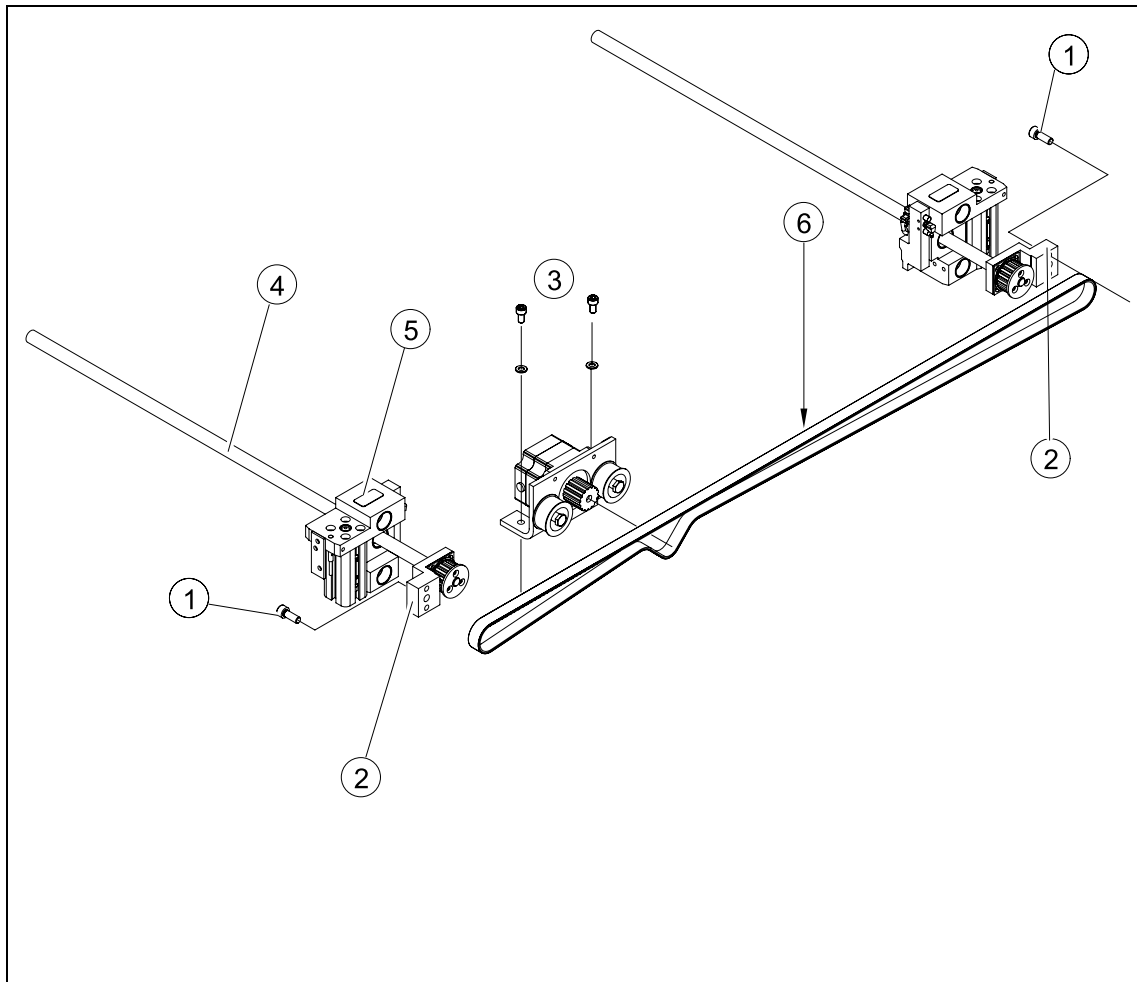

Fig. 6.13.24 Replacing a toothed belt for the drive of the width adjustment system
- Tension the toothed belt (see also Fig. 6.13.24) on the eccentric axle until it engages fully with the teeth of the synchronizing disk.
- Position the measuring point of the belt tension measuring device at the strand center (i.e. the longest distance between two synchronizing disks) of the toothed belt (see also Fig. 6.13.24).